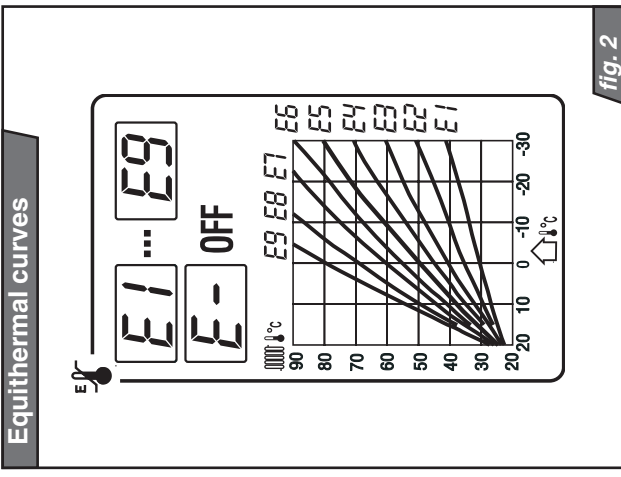

fig. 2
Press the **MODE** button – letter E with the characters (-) and (1) through to (9) attached will appear on the display. By pressing the \ominus \oplus buttons, select the required equithermal curve. The curve's slope grows with the growing number (E1 < E9) – see Fig. 2.